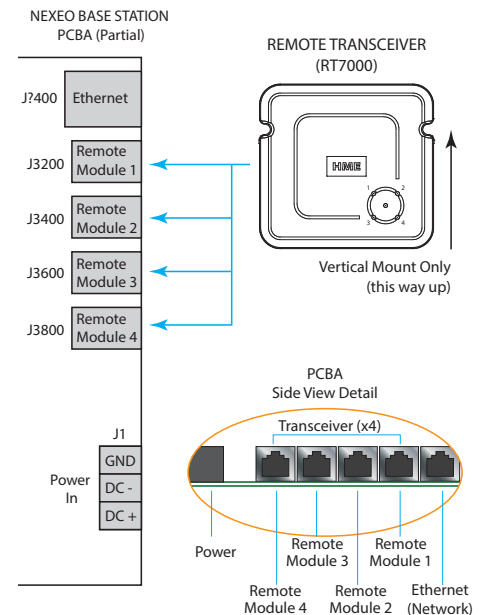

Fig. 4.4
- Mount the transceiver vertically on a wall in the up-right position (see Fig. 4.4 and orientation arrow on the RT7000 rear). Do **NOT** mount horizontally such as on a ceiling, this will severely reduce the transceiver's range.